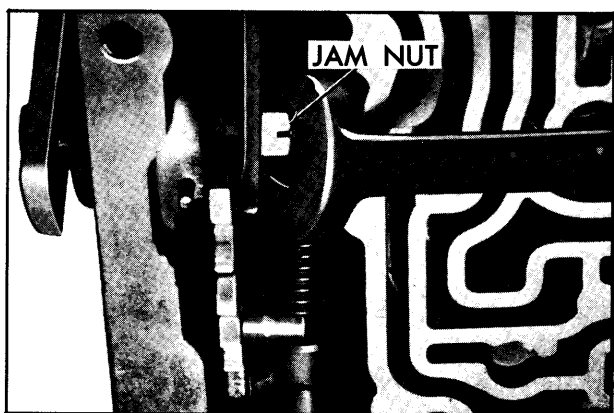

Fig. 7E-208 Installing Locknut
- A. Attach the band apply pin selection gauge spacing plate J-21370-8, J-21370-6 and J-21370-7 to the transmission case as shown with attaching screws. (Fig. 7E-209)